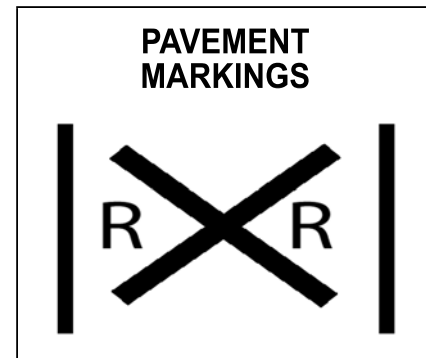

Figure 2.16
**Pavement Markings.** Pavement markings mean the same as the advance warning sign. They consist of an "X" with the letters "RR" and a no-passing marking on 2-lane roads. See Figure 2.16.